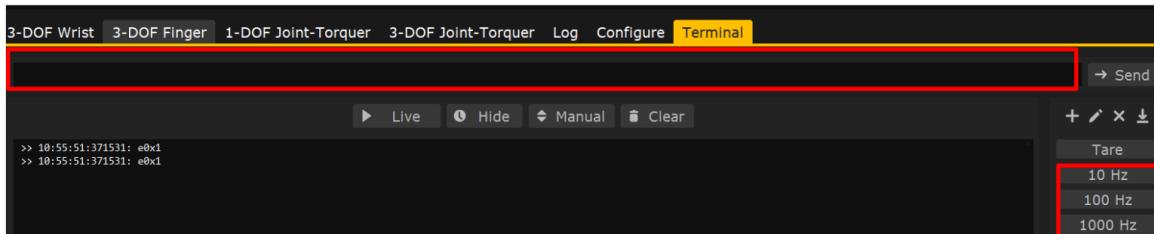

Figure 6: Terminal bar used to send commands to the connected device
- To set a register value, type <**SxxVVVV**> in the bar shown in Figure 6 below and press Enter or the click “Send” button. Note that ‘xx’ is the ASCII ID of the register of interest (these will be provided throughout the document) and ‘VVVV’ is the value to be set.
- To read a register value, type <**Gxx**> in the bar shown in Figure 6 and press Enter or the “Send” button. Note that ‘xx’ is the ASCII ID of the register of interest (these will be provided throughout the document).
- Type <SDRxx> in the bar shown in Figure 6, where ‘xx’ is the desired sampling rate in Hz.
- The command buttons shown on the right side of Figure 6 can also be clicked to set the sampling rate to either 10, 100 or 1000 Hz. Additional command buttons can also be added by clicking on the “+” sign.
- Type <SDM2> in the bar shown in Figure 6.
- Type <CS> in the bar shown in Figure 6.